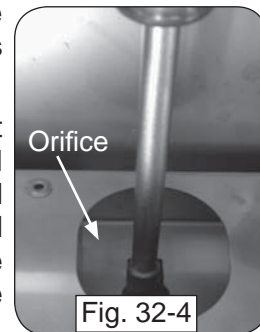

Fig. 32-4
5. Use a $\frac{3}{8}$ " hex nut driver to remove the exposed orifice (Fig. 32-4) and replace it with the correct orifice for the new gas. (See Table 1 at the beginning of this document for orifice sizes.)